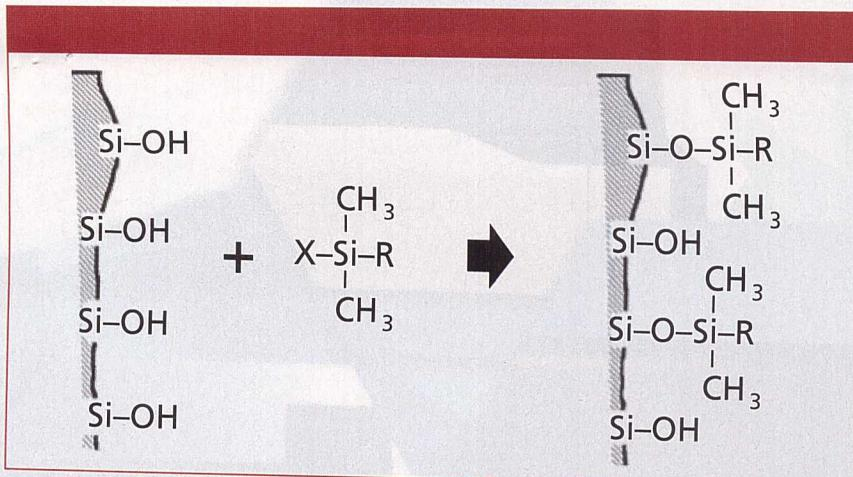

Figure 1: Illustration of adding the bonded phase to a silica surface. See text for details.
the bonded phase. For example, consider a silanol reagent $\text{X}-\text{Si}(\text{CH}_3)_2\text{R}$, where X is a reactive chloro or ethoxy group and R is $\text{C}_{18}\text{H}_{37}$; a C18 bonded phase could be created by forming a "silyl ether" as shown in Figure 1. Because the C_{18} group is quite bulky, only part of the free silanols on the silica surface are bonded in this reaction because of steric hindrance. Most C18 columns are further bonded through an endcapping process to increase column stability and reduce the population of unbonded silanols. This is the same reaction but uses a smaller trimethyl reagent: $\text{X}-\text{Si}(\text{CH}_3)_3$. Even with "complete" bonding and endcapping, approximately half of the silanol surface remains unbonded. As we saw last month (3), these residual silanols can be a source of strong chemical interaction with the analyte or other sample components.
The bonded phase illustrated in Figure 1 is quite easy to form. Unfortunately, under the right conditions, it is also easy to destroy. When the mobile-phase pH is too low, the silyl ether on the right of Figure 1 can be hydrolyzed, gradually returning the surface to the condition at the left of Figure 1. This hydrolysis generally is a concern for mobile-phase $\text{pH} < 2$ for most reversed-phase columns, although there are exceptions as noted below.